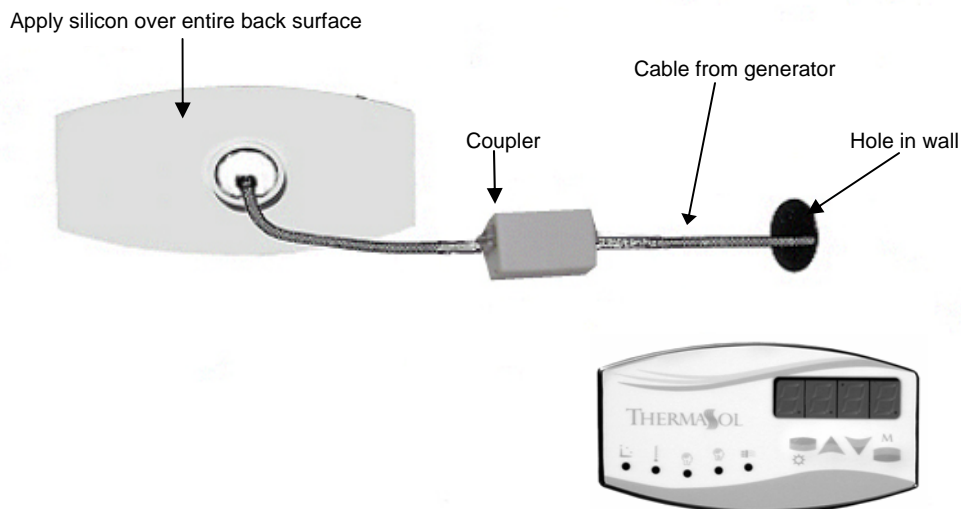

Figure 10
Coat the entire control back with supplied waterproof silicon. Completely seal the control to the wall so moisture does not get behind it. Place the control on the wall pressing firmly. You may need to tape the control into place until the silicone dries. Be careful not to harm the wall/control with the tape. Refer to figure 10.
6. **THESE STEPS MUST BE TAKEN OR YOUR WARRANTY WILL BE VOID.** Coat the entire control back with supplied waterproof silicon. Completely seal the control to the wall so moisture does not get behind it. Place the control on the wall pressing firmly. You may need to tape the control into place until the silicone dries. Be careful not to harm the wall/control with the tape. Refer to figure 10. **Let dry for 24 hours before using steam bath.**